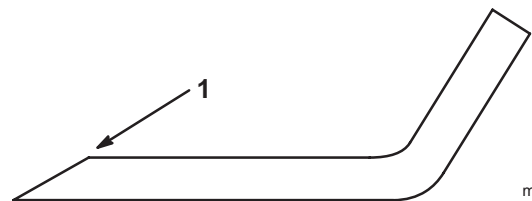

Figure 16
1. Use a file to sharpen the cutting edge at both ends of the blade (Fig. 16). Maintain the original angle. The blade retains its balance if the same amount of material is removed from both cutting edges.